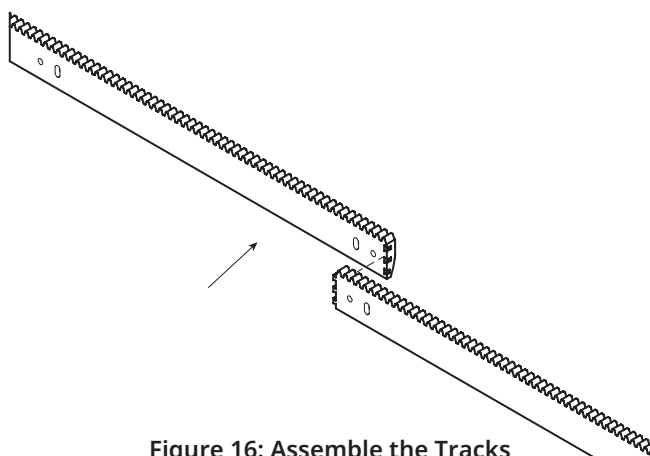

Figure 16: Assemble the Tracks
1. Two slim tracks (ST-PSLIDE) 20" come in each PemkoMatic® box. The two slim tracks can be joined using the grooves at the end as shown Fig 16. We recommend the **total length of the track = width of the door**. Excess length of the track if any must be cut using a hack saw.